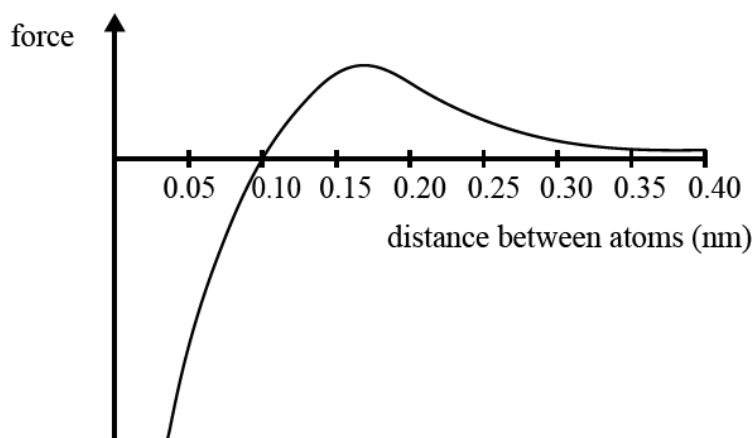

Fig. 4
- (b) **Fig. 4** shows the resultant force on one atom due to a neighbouring atom when they are different distances apart.
- (i) Use **Fig. 4** to determine the distance between the atoms when the force is zero.